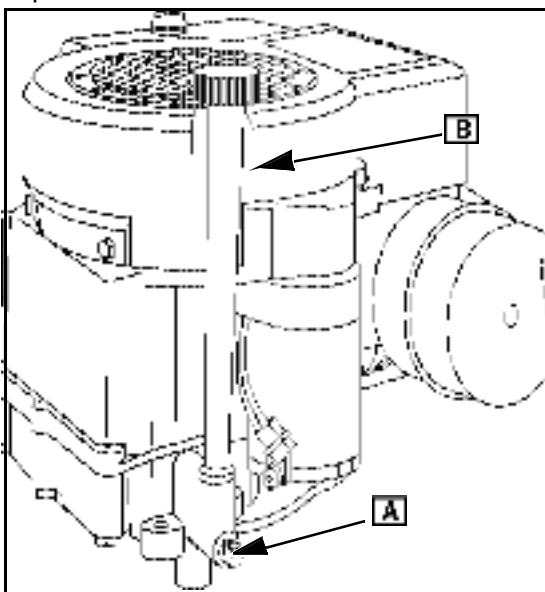

Fig. 2
2. Remove oil drain plug ([A] Fig. 2).
6. Clean area around oil fill cap and tube ([B] Fig. 2).